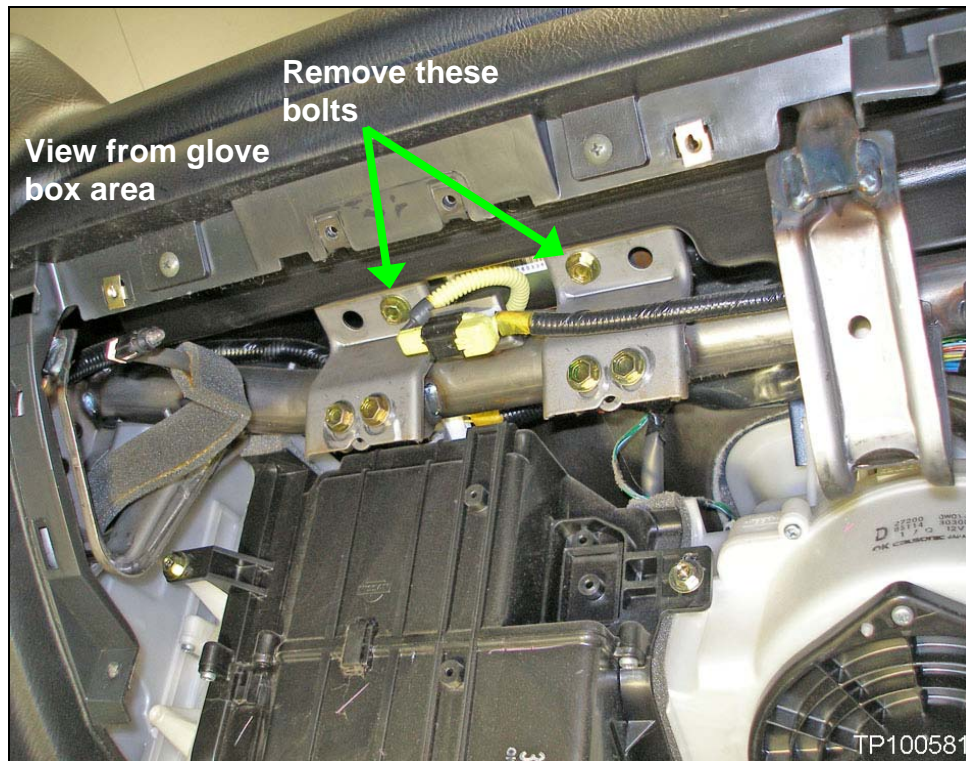

Figure 1
- Before continuing repairs, turn the ignition switch off, disconnect both battery cables (negative cable first), and then wait for at least three (3) minutes.
4. Remove the module's fasteners (hex bolts). See Figure 1.